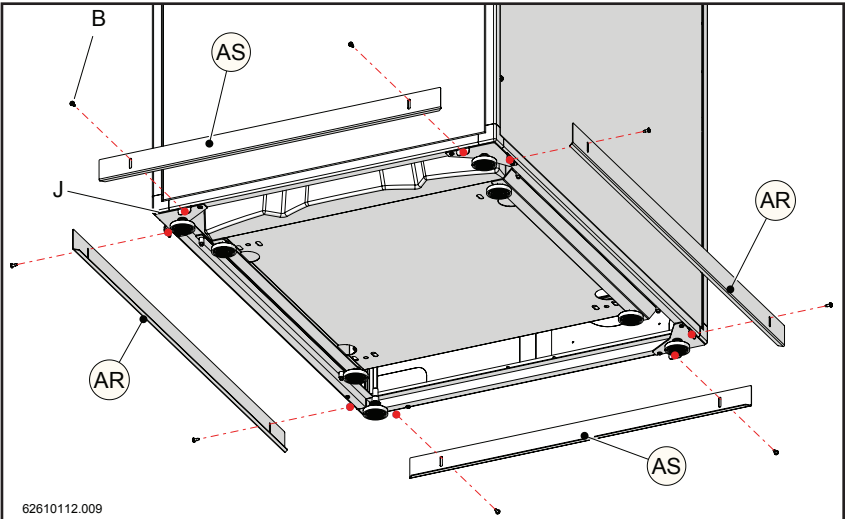

Figure 15-70
- 18.- Finally, attach metal sheets (AR) and (AS), using screws "B", to the lower framework "J"; as shown in figures 15-70 and 15-71.